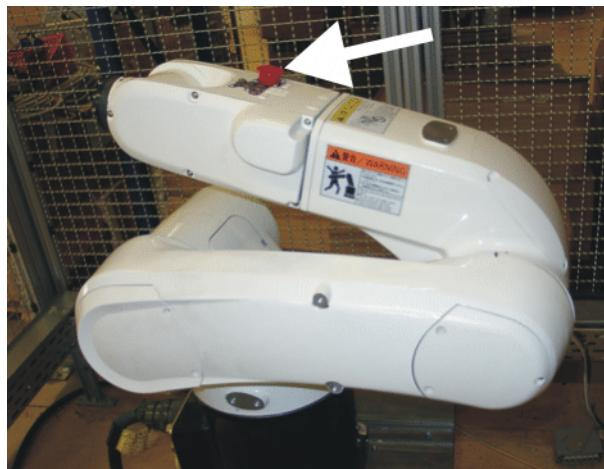

Fig. 11-16: Starting position A4
2. Move A4 so that the connections are on top as shown (>>> Fig. 11-16). Only from this position can A4 be correctly moved into the pre-mastering position.